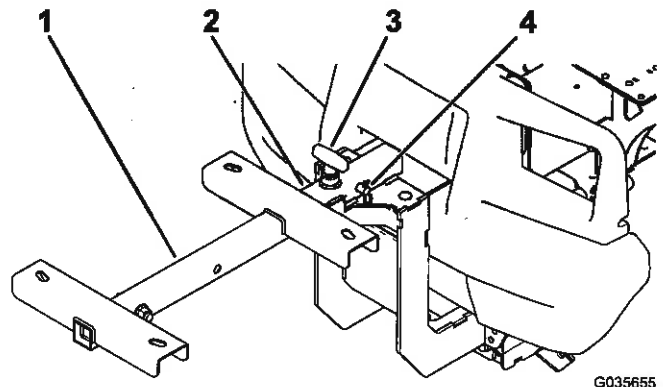

Figure 3
3. Loosen the "T" handle on the front hitch attachment (Figure 3).
4. Insert the tube mount into the front hitch attachment and secure it with the clevis pin (1/2 x 2 inches) and hairpin cotter (Figure 3).
5. Tighten the "T" handle on the front hitch attachment (Figure 3).